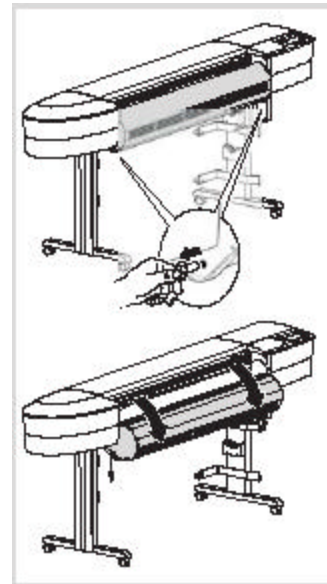

Figure 8
1. Hold the center of the plenum and pull out the retaining pins on the left and right sides. (Figure 8)